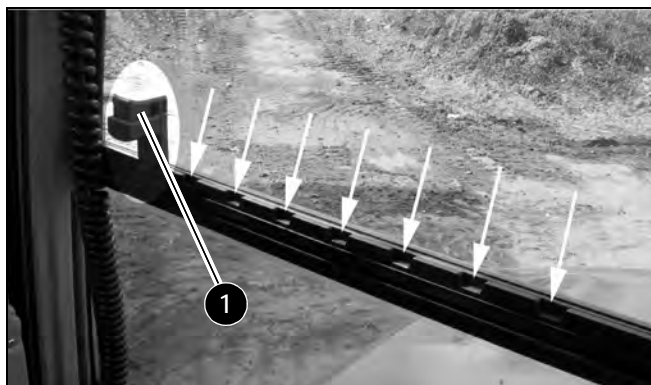

Figure 3-27 Side Window Operation
Squeeze button (1, Figure 3-27) and slide the window to open. Release button (1) when the window is in the desired position. Make sure the window lock securely in one of the recesses.
The flat side of each securing pin head must align with the flat guide on each side of the hole; see 3A and 3B in Figure 3-27 for how the pins look when properly installed.